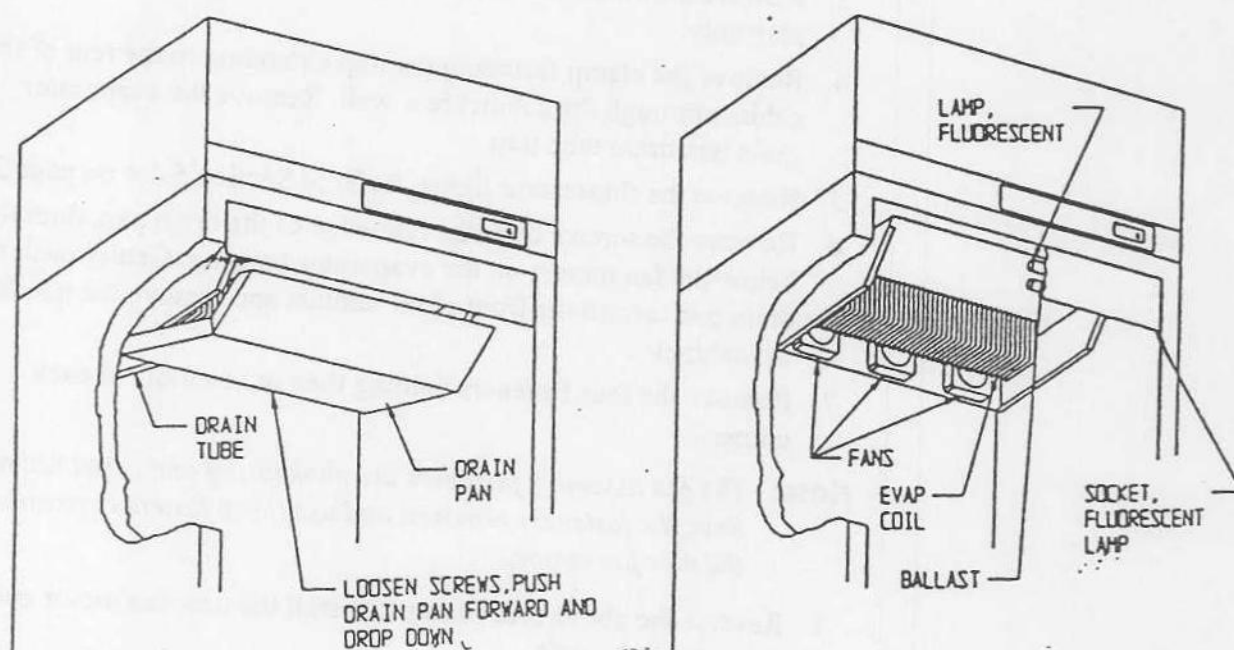

Figure 16. Replacing Parts at Interior Top of Cabinet
2. Access the recorder sensor leads by removing the safety panel that is located at the top front of the cabinet (refer to Figure 16 on page 37.) Remove the screws that secure the top panel and remove the panel.
There are three fan motors (part number 88789H01) located at the rear of the evaporator inside the refrigerator. Refer to Figure 16 on page 37.
Refer to Figure 16 on page 37 for location of ballast.
2. Access the battery by removing the safety panel that is located over the top front of the cabinet, as shown in Figure 16 on page 37. Remove the screws that secure the top panel and remove the panel.